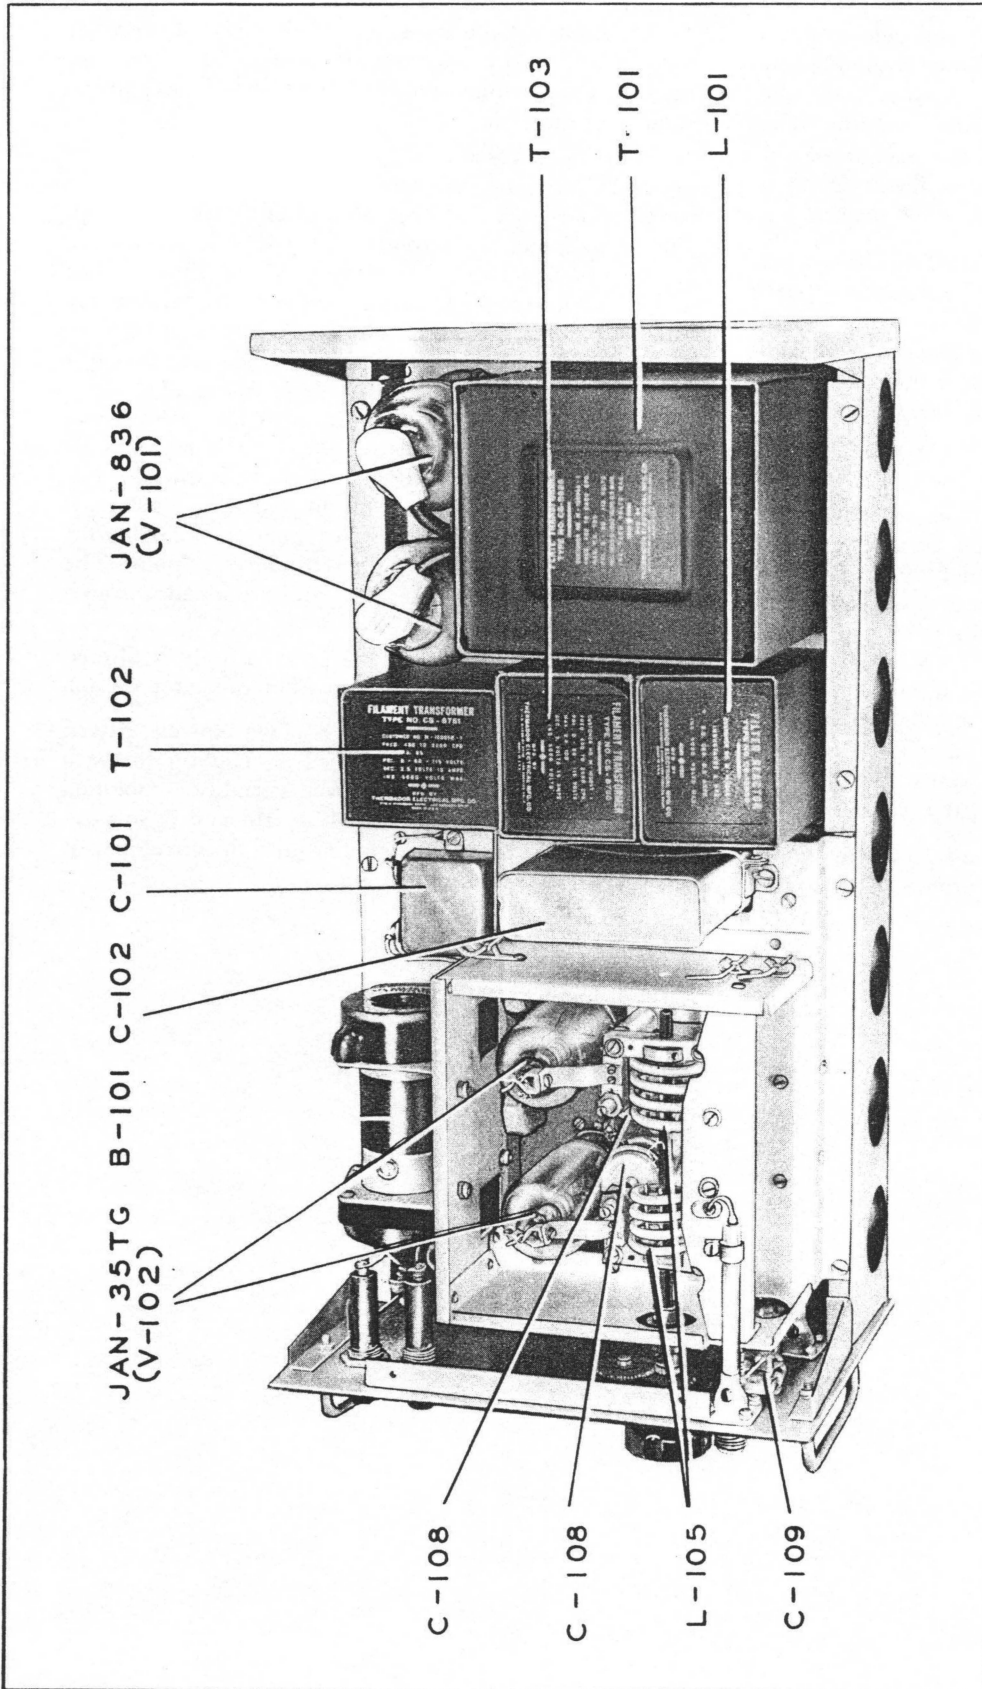

Figure 4-3. Radio Frequency Amplifier AM-18/APT—Top View, Case Removed
i. POWER SUPPLY. (See figure 4-3.)—The power supply consists of filament transformers T-102 and
(1) The 115-volt, 400-cycle alternating current appearing across the primary of T-101 is stepped up in the secondary to a 4,000-volt alternating current potential. The midpoint of the secondary of T-101 is maintained 2,000-volts negative with respect to the chassis. The anodes of the JAN-836 rectifier tubes V-101 alternately attain a potential of 2,000 volts positive or negative with respect to this midpoint. Because of the electron emission of the heated cathodes of these tubes, they alternately pass current over the portion of the cycle during which their anodes are positive. Thus, their cathodes assume a potential equal approximately to the peak positive excursion of the voltage on their plates (less voltage drop across tube), resulting in a potential of 2,000 volts between their cathodes and the secondary midpoint. The cathodes of the rectifier tubes are grounded through resistor R-102.
(2) The d-c output of the power supply is filtered by a single reactor L-101 and a filter capacitor C-102.
j. BLOWER. (See figure 4-3.)—Two blowers, driven by a single motor, provide forced air cooling for each of the amplifier tubes. The blower assembly is mounted as a unit beside the r-f assembly shield and is so positioned that the air is circulated around the envelopes of the JAN-35TG amplifier tubes.